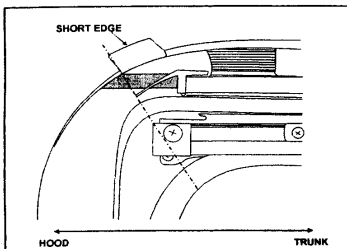

Figure 2. Protective tape location
2. APPLY PROTECTIVE TAPE SO THAT THE EDGE OF PROTECTIVE TAPE IS ALIGNED WITH EDGE OF CYLINDER THAT MEETS THE SUNROOF OPENING (shaded area) as shown in figure 2.